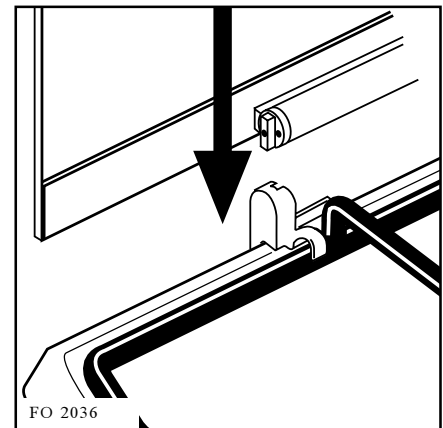

Fig. 12
- b. Fit the lid hinge blocks onto the hob, using the original screws, ensuring that the relevant shims are fitted between the hinge blocks and the hob (fig. 12);
- c. Fit the left hand lid hinge (marked S) into the hinge block (fig. 12);